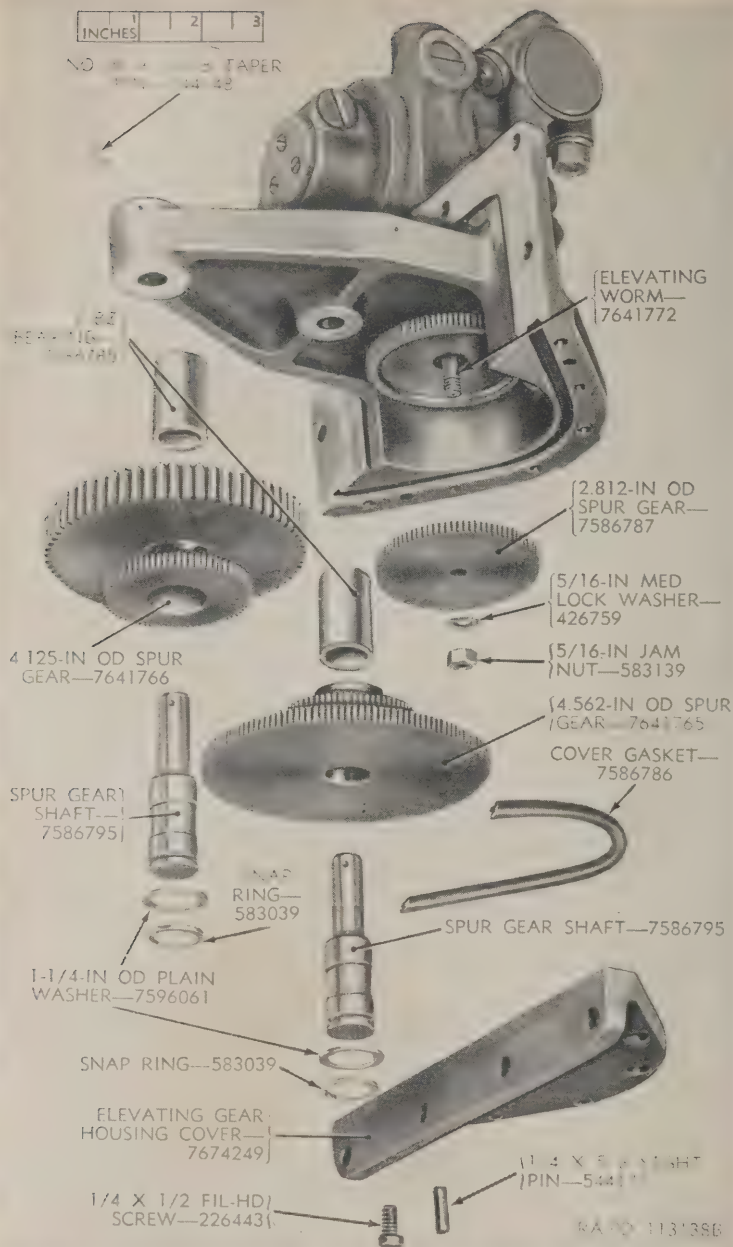
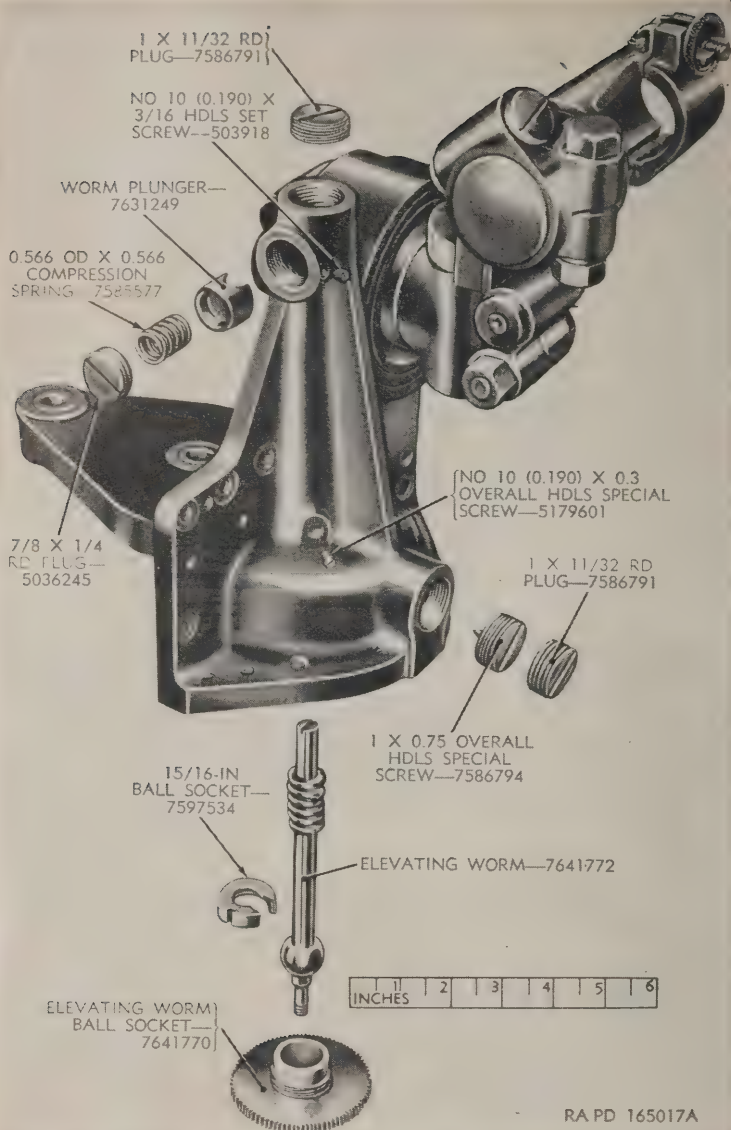
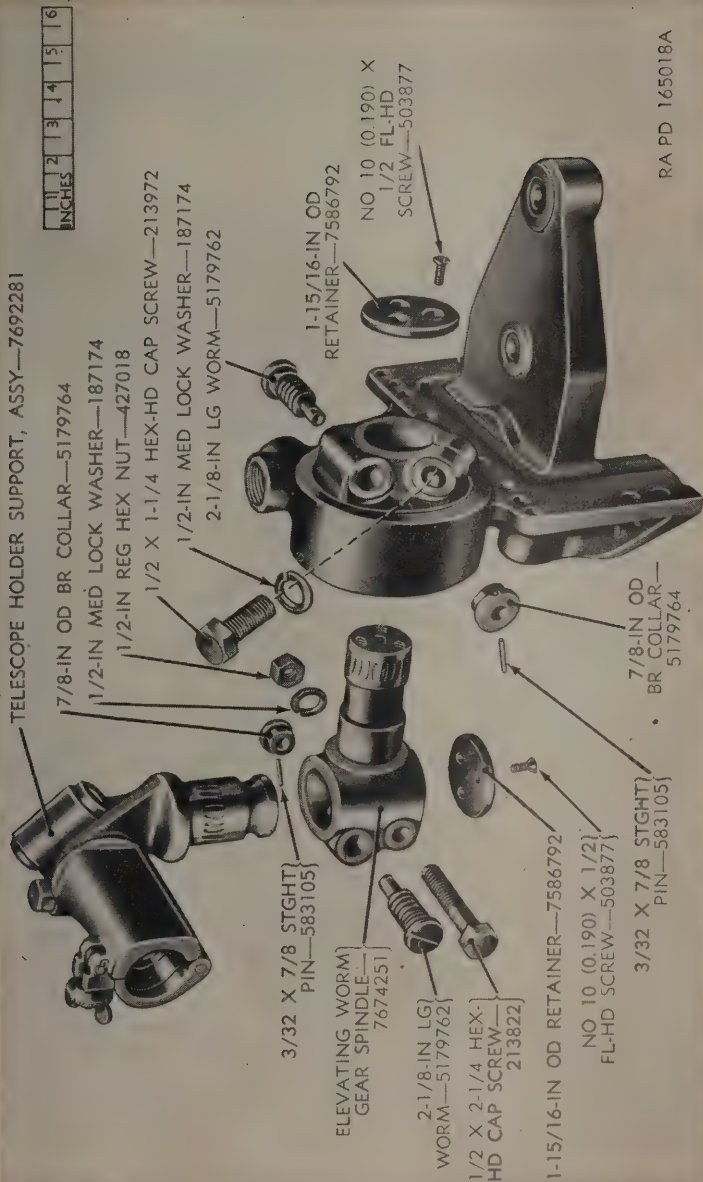
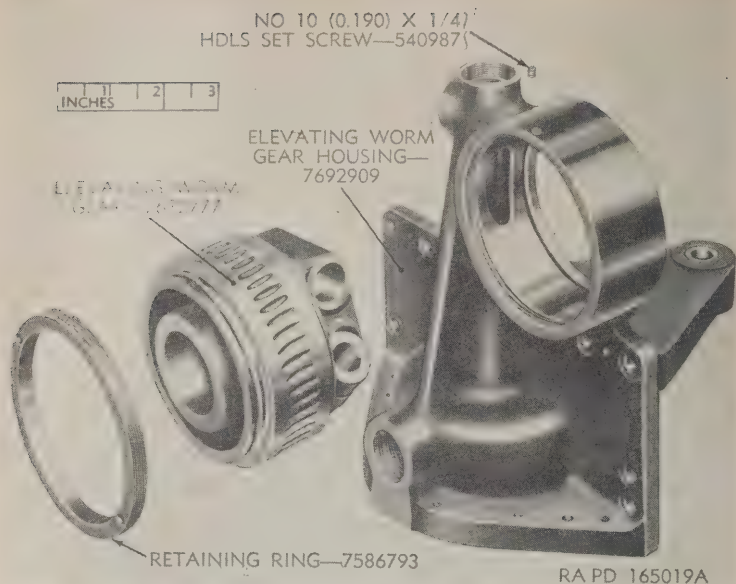

Figure 42. Telescope mount M32—removal of the elevating gear housing cover and spur gears from the housing—exploded view.
Figure 43. Telescope mount M32—removal of the elevating worm and related parts—exploded view.
Figure 44. Telescope mount M32—removal of the telescope holder support assembly and elevating worm gear spindle—exploded view.
Figure 45. Telescope mount M32—removal of the elevating worm gear—exploded view.
(fig. 42)
- (1) Support the spur gear shaft (fig. 42) and press or drive out the taper pin (fig. 42) that secures the shaft in the housing. With the use of a wood drift, press the shaft and 4.562-inch OD spur gear out of the housing. Pull the gear (fig. 42) from the shaft. Remove the snap ring and washer from the shaft.
- (2) Support the second spur gear shaft (fig. 42) and press or drive out the taper pin (par. 30) that secures the shaft in the housing. With the use of a wood drift, press the shaft and 4.125-inch OD spur gear from the housing. Pull the gear (fig. 42) from the gear shaft. Remove the snap ring and washer from the shaft.
- (3) The bearings in each of the spur gears should not be removed unless damaged. If removal is necessary, press out the bearings.
- (4) Remove the jam nut that secures the 2.812-inch OD spur gear to the elevating worm (fig. 42). Slide the lock washer and spur gear (fig. 42) from the worm.
- b. *Removal of the Elevating Worm and Related Parts* (fig. 43).
- (1) Remove the headless set screw that locks the  $\frac{7}{8} \times \frac{1}{4}$  round plug in the housing. Unscrew the plug from the housing. Extract the compression spring and worm plunger from the housing.
- (2) Remove the  $1 \times \frac{11}{32}$  round plug in the top of the gear housing.
- (3) Remove the 1 x  $1\frac{1}{32}$  round plug that gives access to the special screw that locks the elevating worm ball socket in the housing. Remove the special screw from the housing and unscrew the elevating worm ball socket.
- (4) Loosen the headless special screw that positions the  $\frac{15}{16}$ -inch ball socket in the housing. Rotate the elevating worm and extract the worm and ball socket from the housing. Slide the ball socket from the elevating worm.
*c. Removal of the Telescope Holder Support Assembly (fig. 44).*
- (1) Support the collar on the end of the worm in the elevating worm gear spindle. Press or drive out the straight pin that secures the collar to the worm. Pull the collar from the worm. Unscrew and remove the worm from the spindle by rotating it with a screwdriver.
- (2) Unscrew the hex nut from the hex-head cap screw (clamping screw). Slide the lock washer from the screw and extract the cap screw from the spindle.
- (3) Unscrew the three flat-head screws that secure the retainer to the bottom side of the telescope holder support assembly. Remove the retainer and carefully slide the telescope holder support assembly out of the elevating worm gear spindle.
*d. Removal of the Elevating Worm Gear Spindle (fig. 44).*
- (1) Support the collar on the end of the worm and press or drive out the straight pin that secures the collar to the worm. Pull the collar from the worm. Unscrew the worm from the elevating worm gear.
- (2) Unscrew the hex-head cap screw (clamping) from the elevating worm gear. Slide the lock washer from the cap screw.
- (3) Remove the three flat-head screws that secure the retainer to the spindle. Remove the retainer and carefully slide the spindle out of the elevating worm gear.
*e. Removal of the Elevating Worm Gear (fig. 45).*
- (1) Remove the headless set screw that locks the retaining ring in the elevating worm gear housing. Using the proper size spanner wrench, unscrew the retaining ring from the elevating gear housing.
- (2) Press the elevating worm gear from the housing.
*a. Installation of the Elevating Worm Gear (fig. 45).*
- (1) Lubricate (par. 26) the elevating worm gear and the bore of elevating worm gear housing. Carefully slide the elevating worm gear into the housing.
- (2) Screw the retaining ring into the housing. Rotate the worm gear while tightening the retaining ring. When the movement of the gear is without binding or end play, no further adjustment of the retaining ring is necessary. Insert the No. 10 ( $0.190$ )  $\times \frac{1}{4}$  headless set screw in the top of the housing, to lock the retaining ring in position. Tighten the set screw securely.
*b. Installation of the Elevating Worm Gear Spindle (fig. 44).*
- (1) Properly lubricate (par. 26) the hob and bearing surface of the elevating worm gear spindle and the internal bearing surfaces of the elevating worm gear. Carefully insert the spindle in the elevating worm gear. Position the  $1\frac{5}{16}$ -inch
- (2) Place a  $\frac{1}{2}$ -inch medium lock washer on the  $\frac{1}{2}$  x  $1\frac{1}{4}$  hex-head cap screw. Screw the cap screw into the elevating worm gear. Tighten the cap screw securely, thereby clamping the spindle.
- (3) Lubricate (par. 26) the  $2\frac{1}{8}$ -inch long worm and screw the worm into the elevating worm gear. The worm must engage with the hob of the elevating worm gear spindle (par. 40). Press the  $\frac{7}{8}$ -inch OD brass collar on the protruding end of the worm. Aline the pin holes in the collar with the pin hole in the worm. Press or drive in the  $\frac{3}{32}$  x  $\frac{7}{8}$  straight pin, to secure the collar to the worm.
*c. Installation of the Telescope Holder Support Assembly (fig. 44).*
- (1) Properly lubricate (par. 26) the hob and bearing surface of the telescope holder support assembly. Slide the telescope holder support assembly into the elevating worm gear spindle. Position the  $1\frac{15}{16}$ -inch OD retainer on the support. Insert and tighten the three No. 10 (0.190) x  $\frac{1}{2}$  flat-head screws, to secure the retainer to the support.